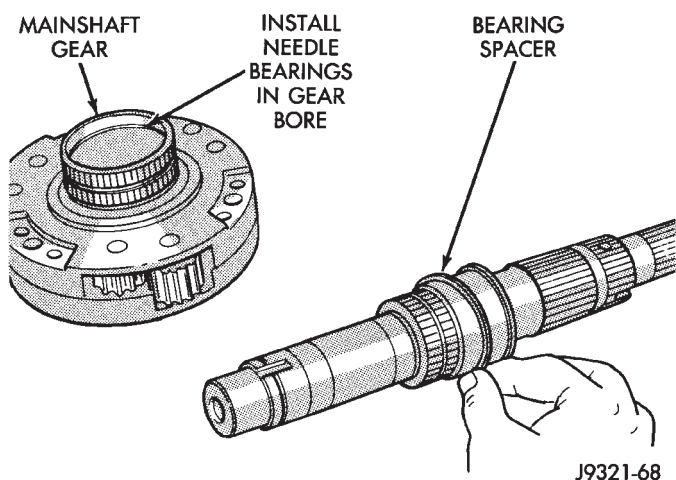

Fig. 74 Installing Bearing Spacer And Needle Bearings
(10) Install remaining needle bearing spacer on mainshaft (Fig. 74). Seat spacer against shaft flange.
(11) Apply liberal quantity of petroleum jelly to needle bearings and to bore of mainshaft gear (Fig. 74). Petroleum jelly will prelubricate and hold bearings in place during assembly.
(12) Install mainshaft needle bearings in bore of mainshaft gear (Fig. 74). A total of 53 bearings are required.